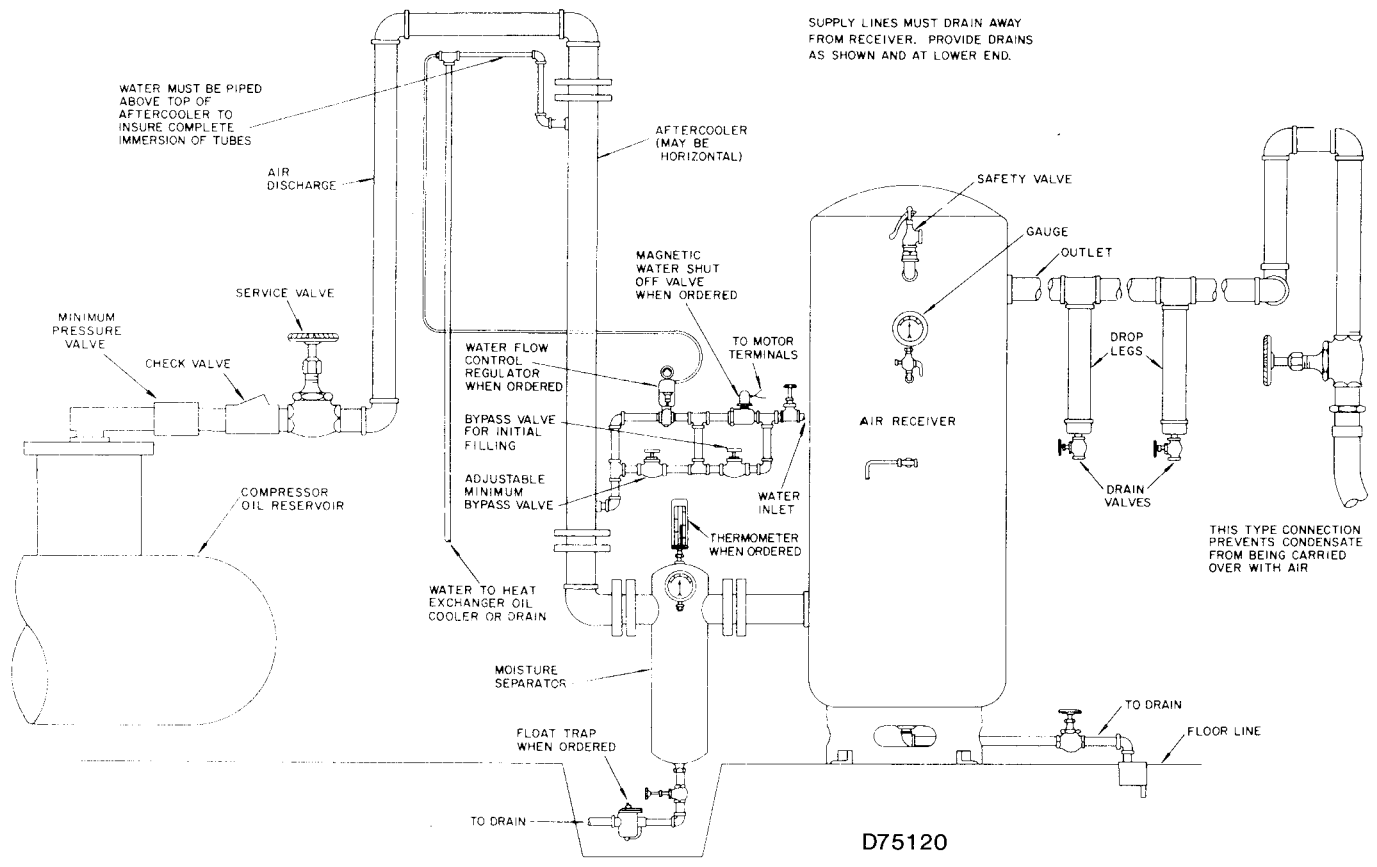

FIGURE 5-2. — AUXILIARY ACCESSORIES
**AFTERCOOLER** (Figure 5-2) — An aftercooler will provide
**Externally Mounted Aftercooler** — When the aftercooler is mounted outside the compressor unit, it is to be installed between the final discharge outlet and any auxiliary air receiver. Figure 5-2 shows a water-cooled aftercooler, but the piping arrangement shown also applies to an air-cooled type. A moisture separator is to be mounted directly down-